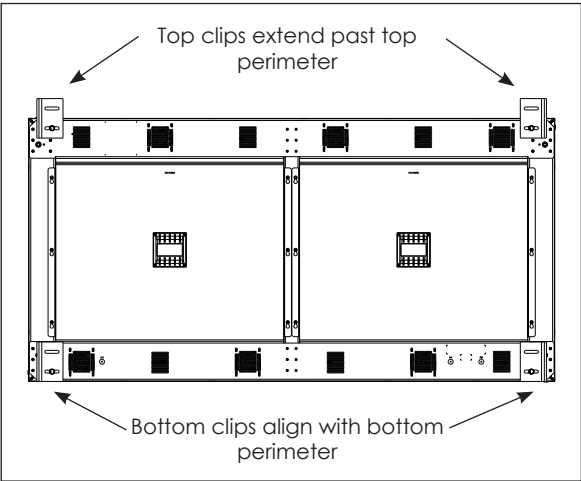
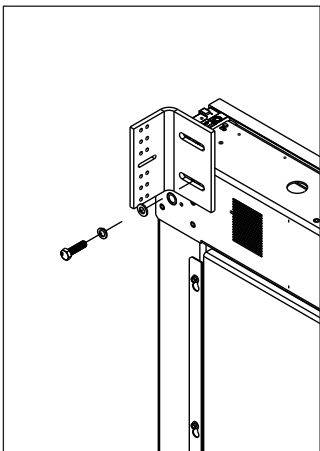

Figure 2: Attach Mounting Clips
Figure 3: Mounting Clip Detail
- 3. Attach the vertical mounting clips onto the top and bottom of the cabinet so the bottom clips align with the bottom perimeter and the top clips extend past the top perimeter. Refer to Figure 2 and Figure 3.